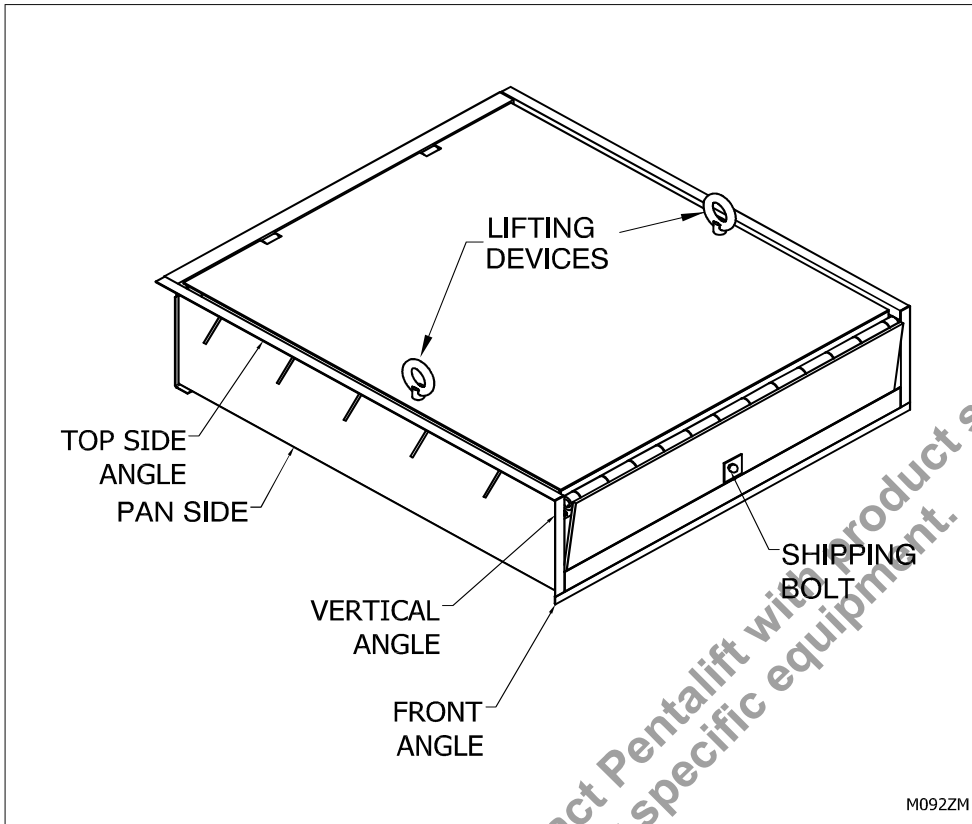

Figure 46: Shipping Wire, Bolts, and Lifting Devices.
12. Remove the top shipping bolts (if equipped) and front shipping bolts and lifting brackets. (See “Figure 46: Shipping Wire, Bolts, and Lifting Devices.” on page 39)
3. ___ Support the lower half of the toe guard and remove the self tapping screw which holds it in the shipping position. Carefully lower the toe guard and avoid pinch points (see "Figure 46: Shipping Wire, Bolts, and Lifting Devices." on page 39)